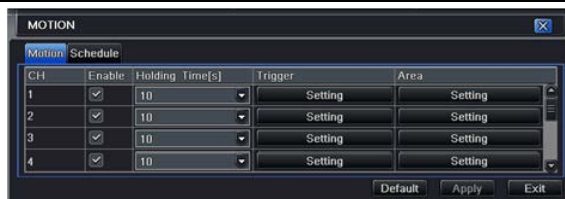

Fig 4.22 Motion
① Motion
Step 1: Enter into system configuration → alarm configuration → motion. Refer to Fig 4.22.